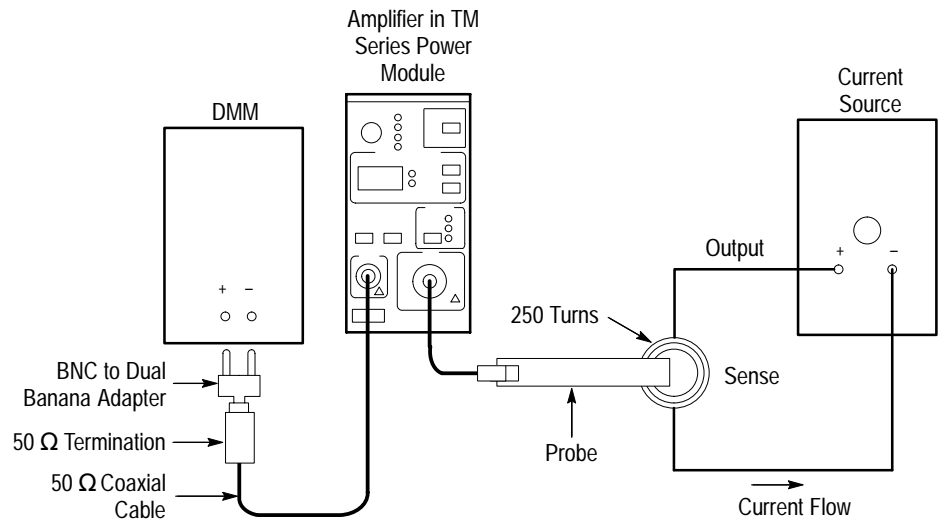

Figure 19: DC Gain Accuracy Test Setup for the A6304XL
2. Connect the current loop to the current source as shown in Figure 19.
3. Clamp the current probe around the current loop. Check that the arrow-shaped indicator on the probe points away from the current source. (See Figure 19 on page 59.)